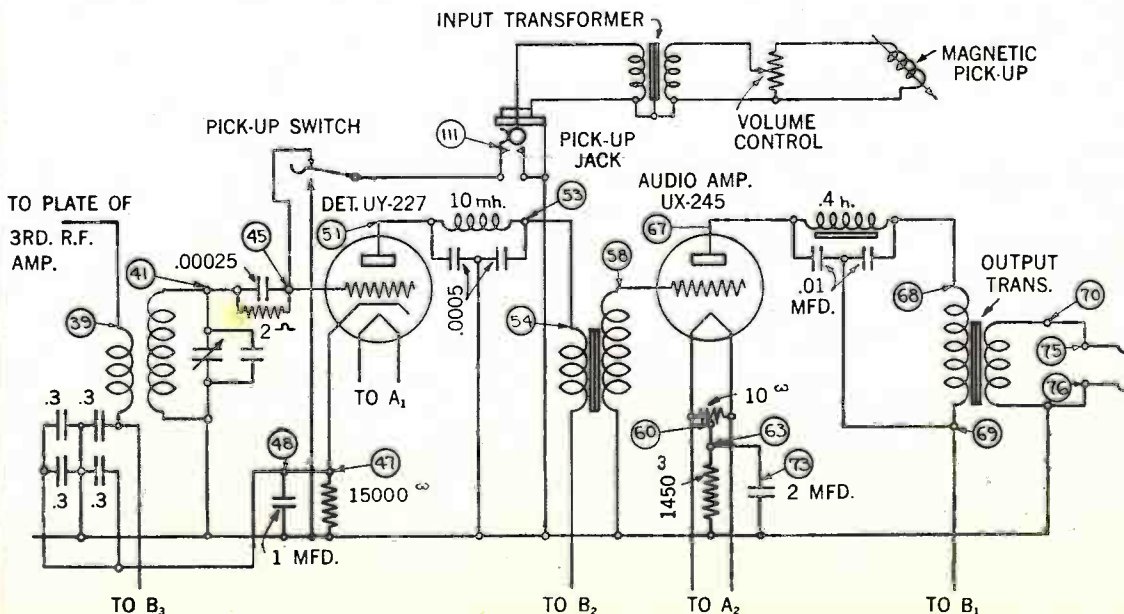

Fig. 102 - Typical circuit of a phonograph pick-up. The pick-up is shown at the upper part of the drawing. It feeds into the detector grid circuit.
(2) Phono-Pickup Circuits. Connections of the phono-pickup circuits are included in the regular diagrams in the back of this book on the sets employing phonograph combinations. But a few words describing some of the circuits may not be amiss here. Fig. 102 shows a typical method as employed in the Stromberg Carlson "No. 654" A.C. receiver. In this set the phonograph motor is operated by the A.C. line and drives the turntable at a rate of 78 revolutions per minute; the output of the magnetic pickup is connected to a potentiometer volume control which, in turn, connects to the input transformer as shown. The secondary of the input transformer is led by means of a plug connection to the set, to the grid and filament of the detector tube, thus employing the detector as a stage of audio-frequency amplification. Arrangement for obtaining the proper "C" bias on the detector is included. In many other sets, the pickup connects to the primary winding of the first audio-frequency transformer, as shown in the diagrams of the Brunswick-Balke-Collender sets.